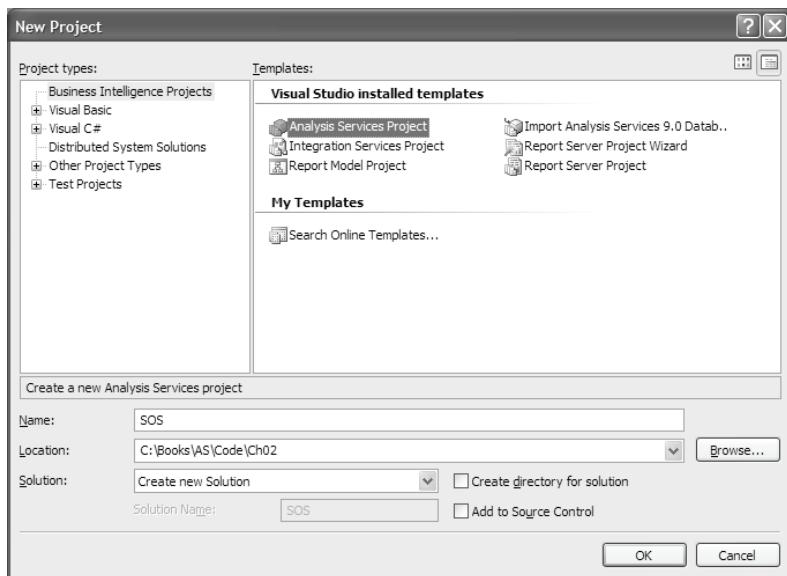

Figure 2.9 Select the Analysis Services Project template to create a new SSAS project.
1. Start BI Studio. Select *File* \Rightarrow *New* \Rightarrow *Project*. The New Project dialog appears (Figure 2.9).